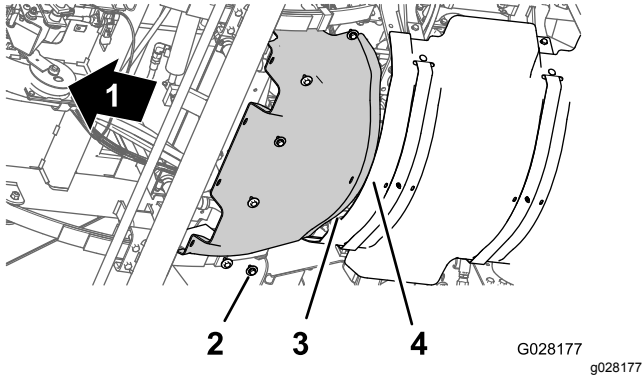

Figure 57
1. Align the rear flange of the forward heat shield over the forward flange of the rear heat shield (Figure 57).
2. Align the holes in the forward heat shield with the threaded holes in the chassis (Figure 57).
3. Assemble the forward heat shield to the machine with the 6 hex-head bolts and 6 washers (Figure 57) that you removed in step 3 of Removing the Forward Heat Shield (page 48).